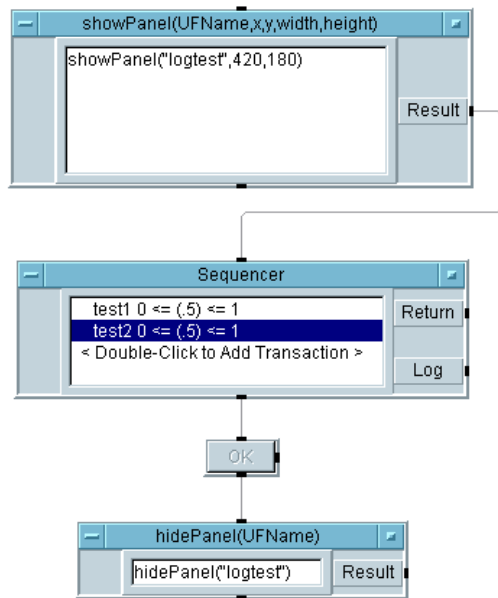

Figure 279 Status Panel Program (before running)
- 6 Select hidePanel from the Function & Object Browser box and **Flow** ⇒ **Confirm(OK)**. Change the hidePanel() parameter to logTest. Delete the input pin. Connect the objects as shown in Figure 279.